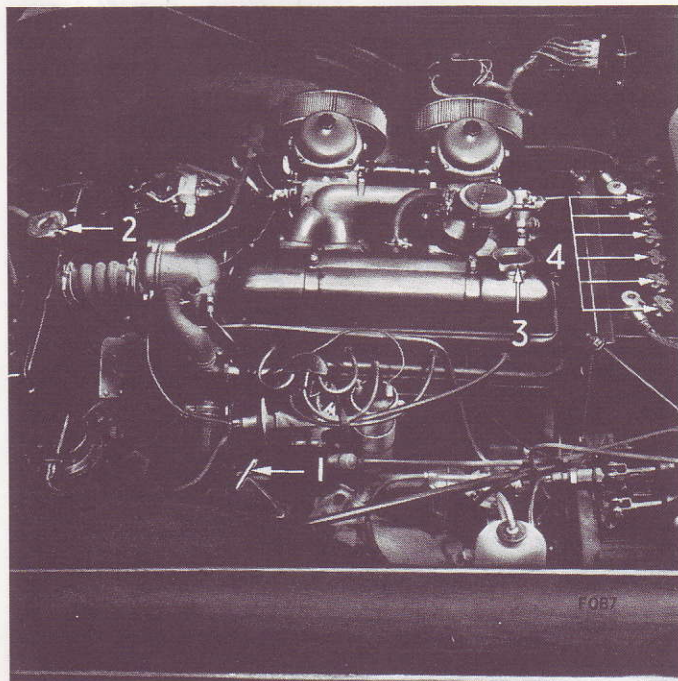

Fig. 13
Should the reservoir be allowed to empty, remove the radiator filler cap, (2) Fig. 13, completely fill the radiator, replace the cap and fill the plastic reservoir.
Examine the level of the electrolyte in the cells and, if necessary, add distilled water via the plugs (4) Fig. 13, to bring the level up to the top of the separators.